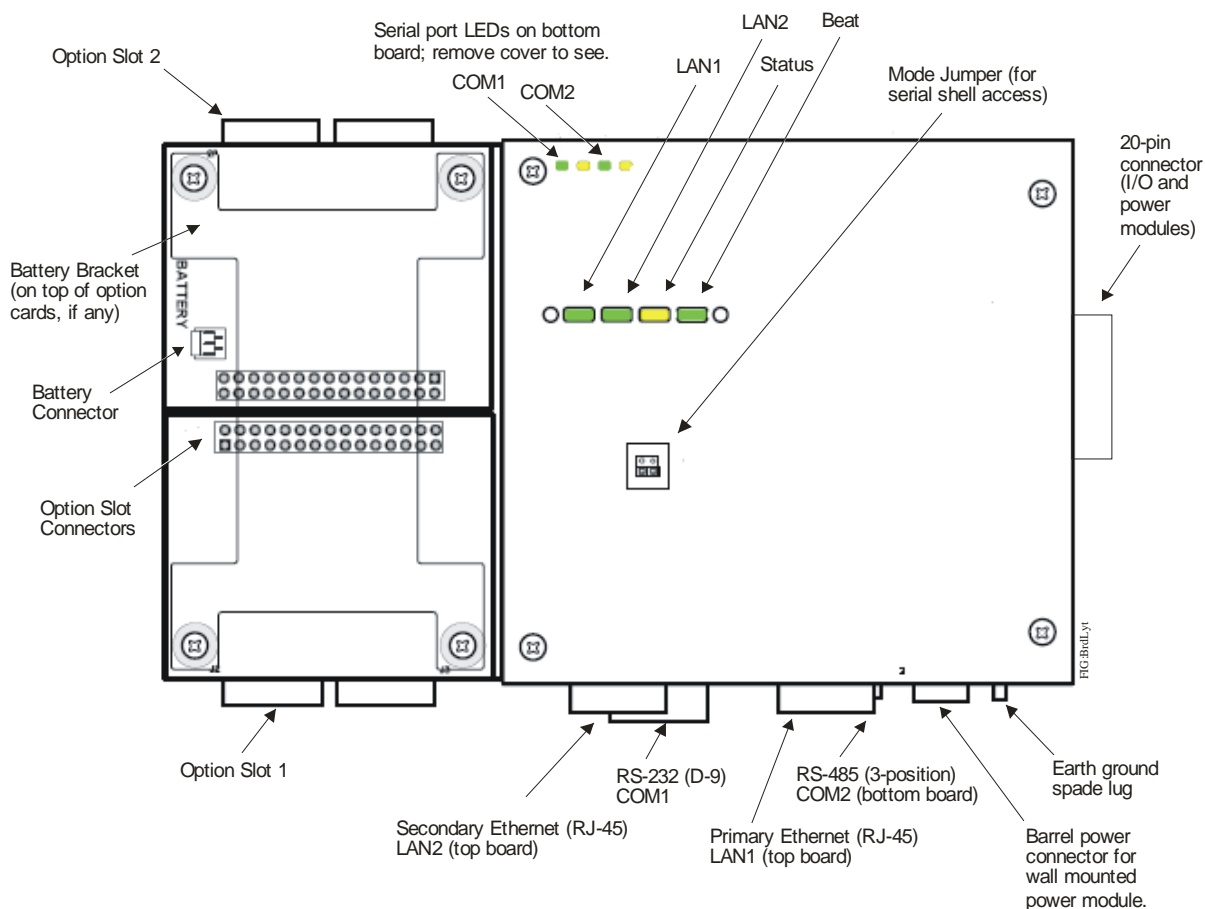

Figure 6: FX20/FX60 Board Layout Details
See Figure 6 for the location of Light-Emitting Diodes (LEDs), option slots, and other features of the FX20/FX60. See Figure 9 for a side view of communication ports and other features.
* If a modem card is installed, and the mode jumper is put in Serial Shell position (see Figure 6), then the FX20/FX60 base RS-232 port becomes active immediately following a reboot. This allows an RS-232 connection to the serial shell for debugging purposes. To re-enable the modem, you must put the mode jumper back in the Normal position and reboot.
See Figure 6 to locate connectors and other components on the FX20/FX60.